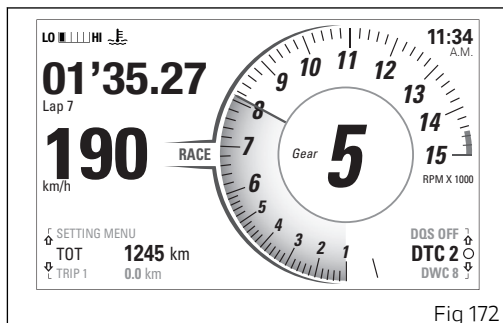

Fig 172
Every time the FLASH button (3) is pressed again, the display shows the number and time of the just-ended lap for 1 second, both flashing, then they remain steady on for further 5 seconds. Then the timer and the number of the new current lap (Fig 172) are displayed again.